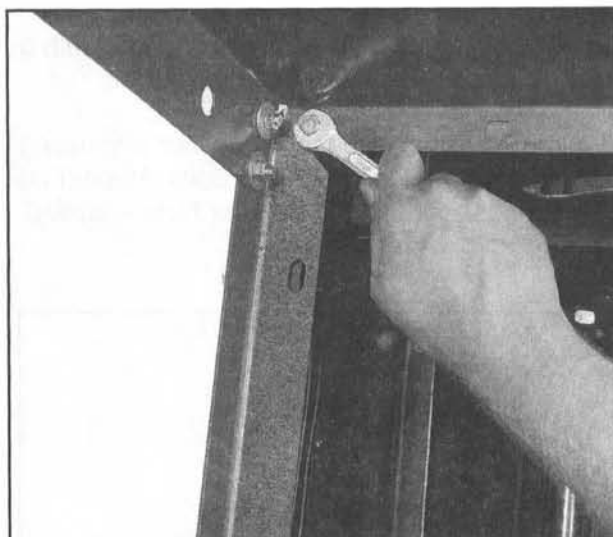

Figure 7.
5. Note the location of the mounting holes on the top of the stand. Turn the table saw body upside-down and place the stand (upside down) on the table saw, lining up the mounting holes at the four corners. Secure with four 8mm-1.25 x 19mm Hex Bolts, eight 8mm Flat Washers and four M8-1.25 Hex Nuts. **Figure 7.**